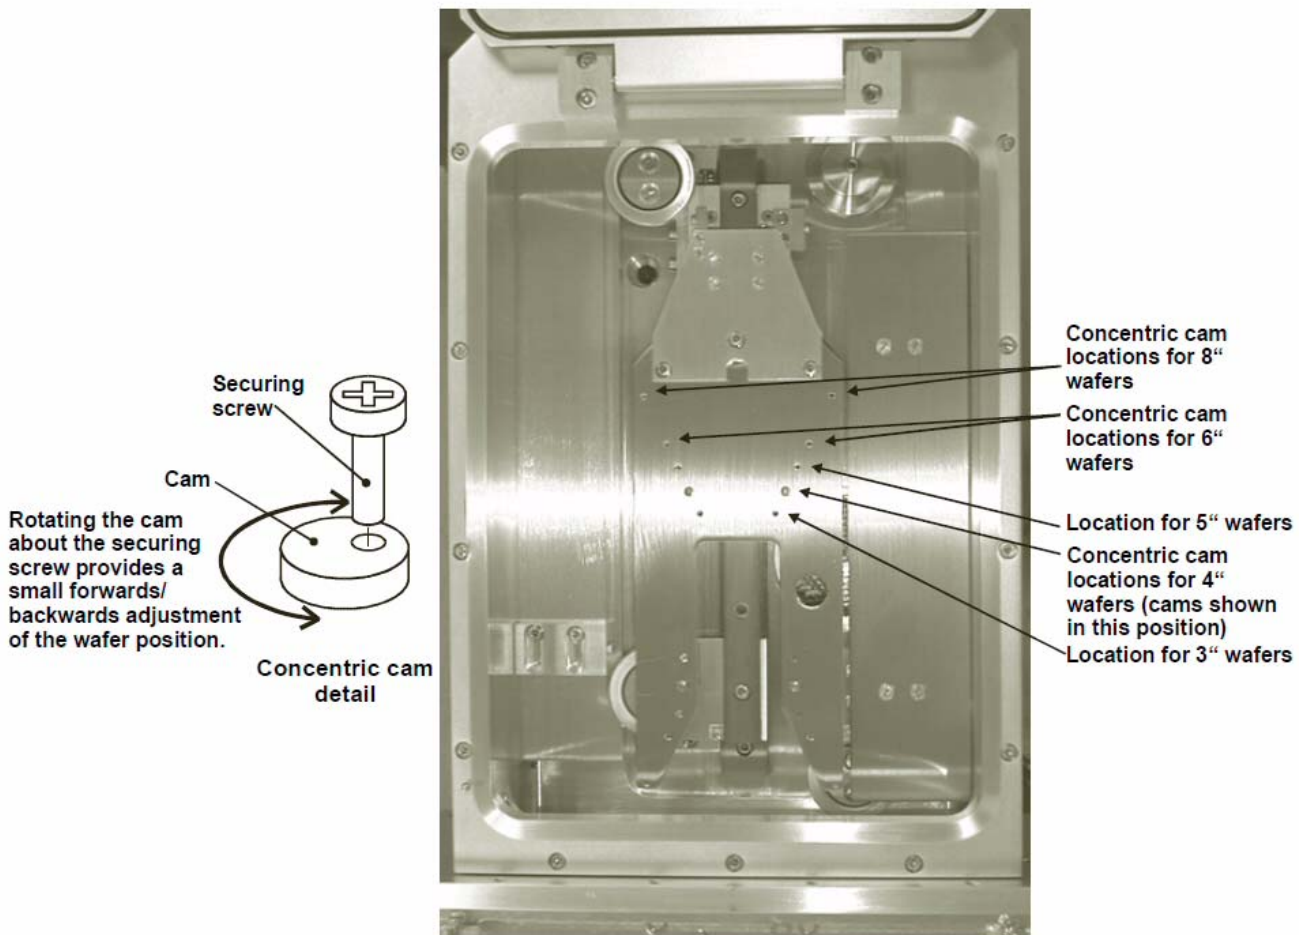

Figure 7-2 End-effector wafer size adjustments
The automatic load lock end effector can accommodate wafer diameters of 3" to 8". This is achieved using a series of pairs of holes appropriately spaced for the different wafer sizes into which concentric cams are secured. See Figure 7-2.
- 3 Wearing powder-free gloves, remove both concentric cams/securing screws from the end effector, then fit them into the appropriate holes for the wafer size to be processed (see Figure 7-2).